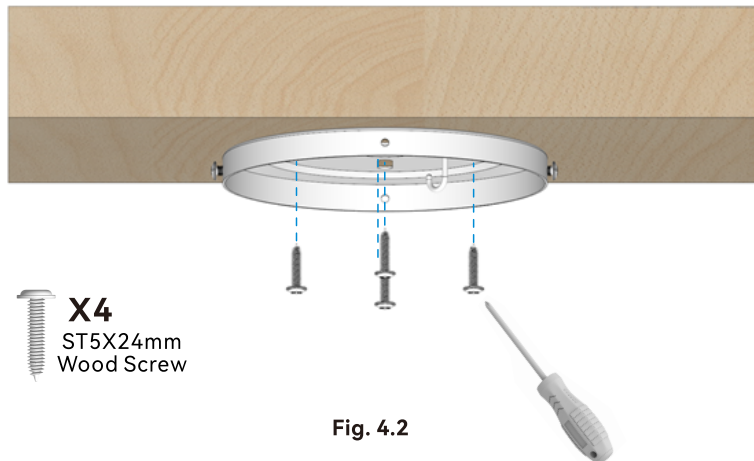

Fig. 4.2
**Option 1:** Secure the mounting plate to a wooden ceiling beam or support structure with an approved electrical outlet box using the ST5x24mm wood screws (included) as shown in Fig. 4.2.